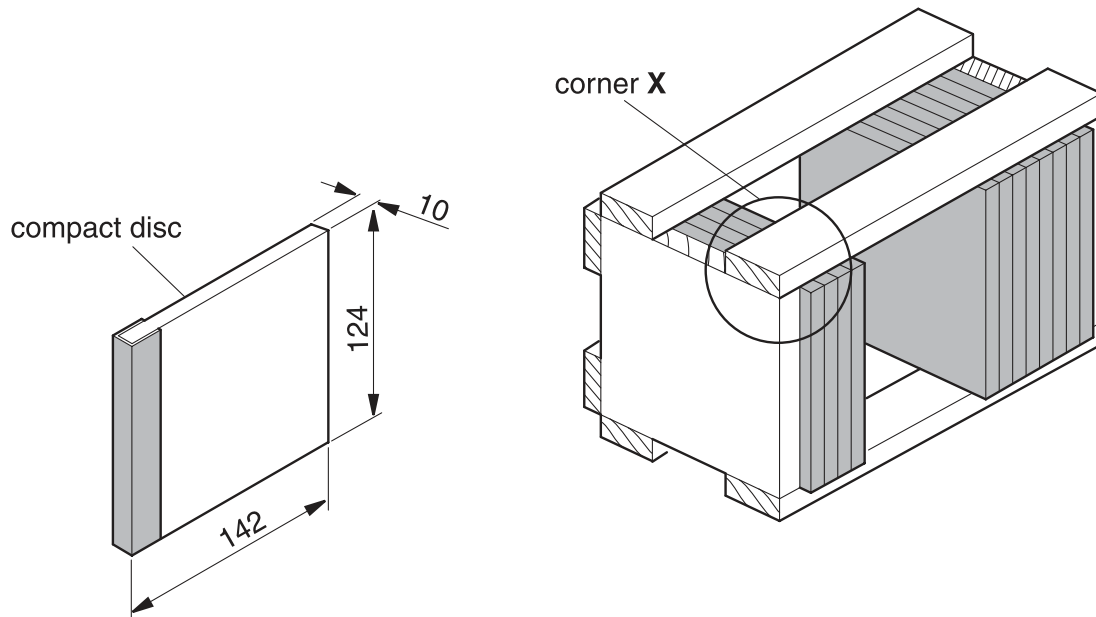

Fig. 8
- 8 Fig. 8 shows a wooden storage unit to hold compact discs (CDs). The unit is capable of holding 35 CDs.